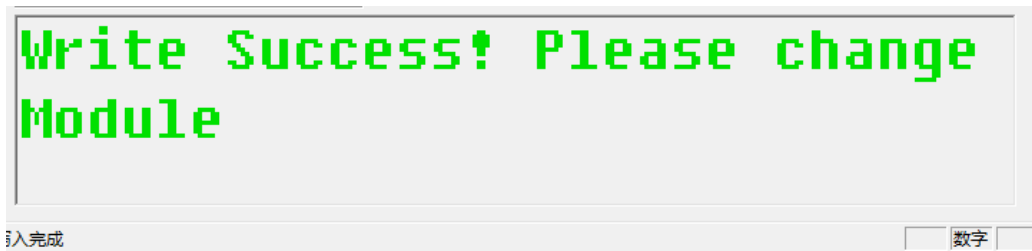

Figure 15
4.8 Wait until the prompt "Write Success" is displayed, indicating that the programming of the module is complete (as shown in Figure 15)